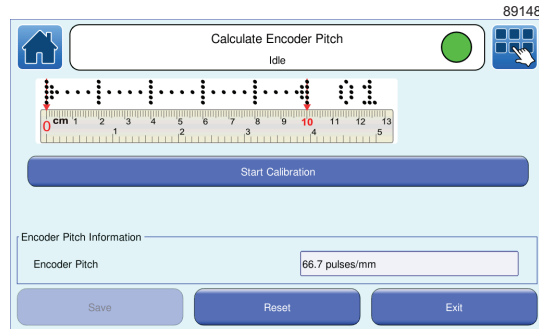

Figure 41. Calculate Encoder Pitch: Start Calibration screen
- 6 Measure the length of the printed calibration message. This value is the distance between the outer edges of the end arrows, shown by the red dots in Figure 41 on page 48. For reference, when the length of the calibration message is 100 mm (plus or minus 1 mm), the encoder pitch is accurate.